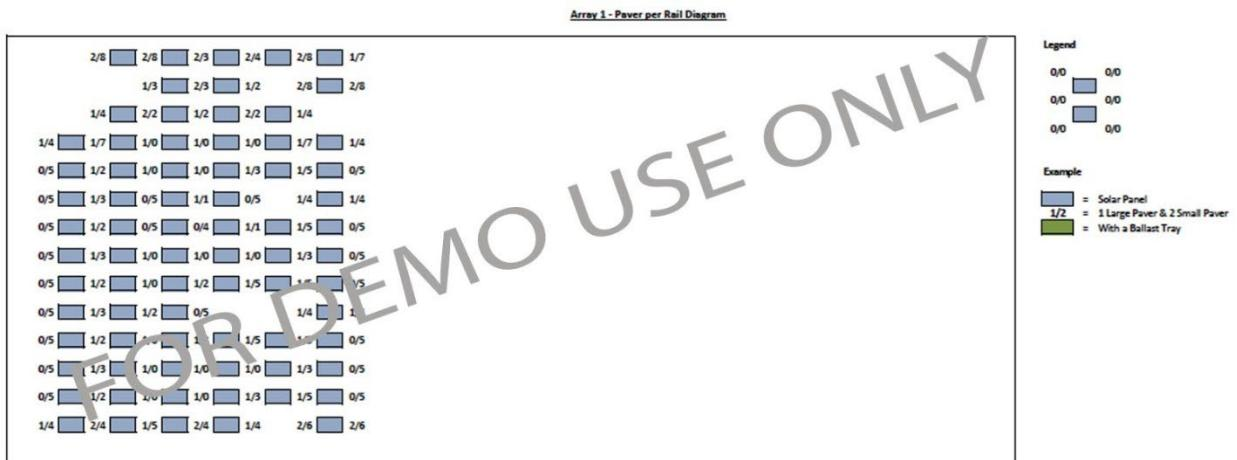

Fig. 18 – Sample Ballast/Paver Layout
- 1 Double ballast trays are only required wherever they are shown on the *Ballast Layout* (see example, Figures 18).